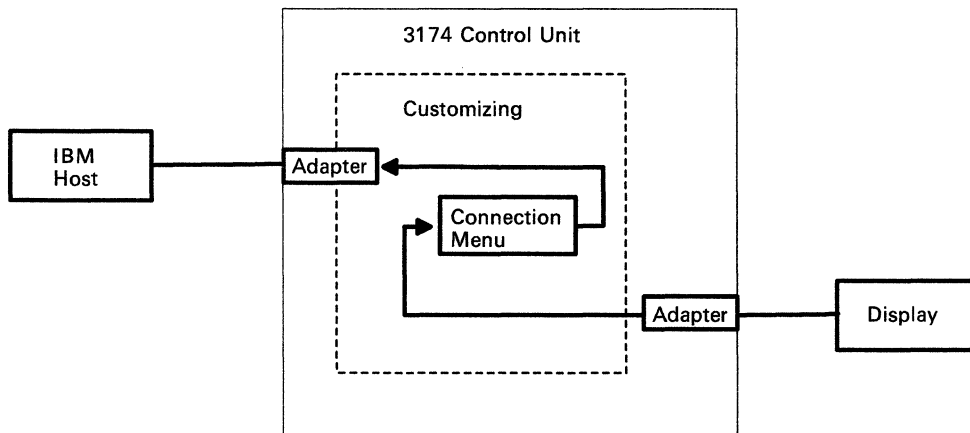

Figure B-13. Connection Menu Option 1
1. The terminal user may be presented the Connection Menu, but is allowed to select only the default host assigned. See Figure B-13.